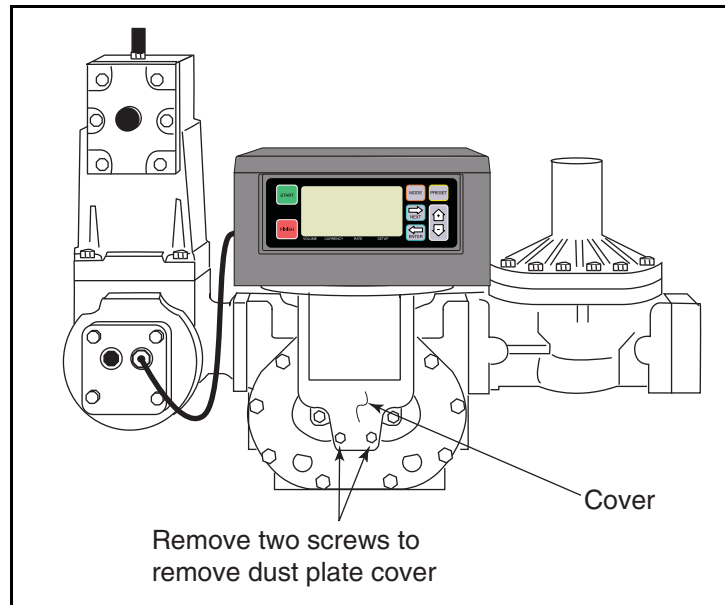
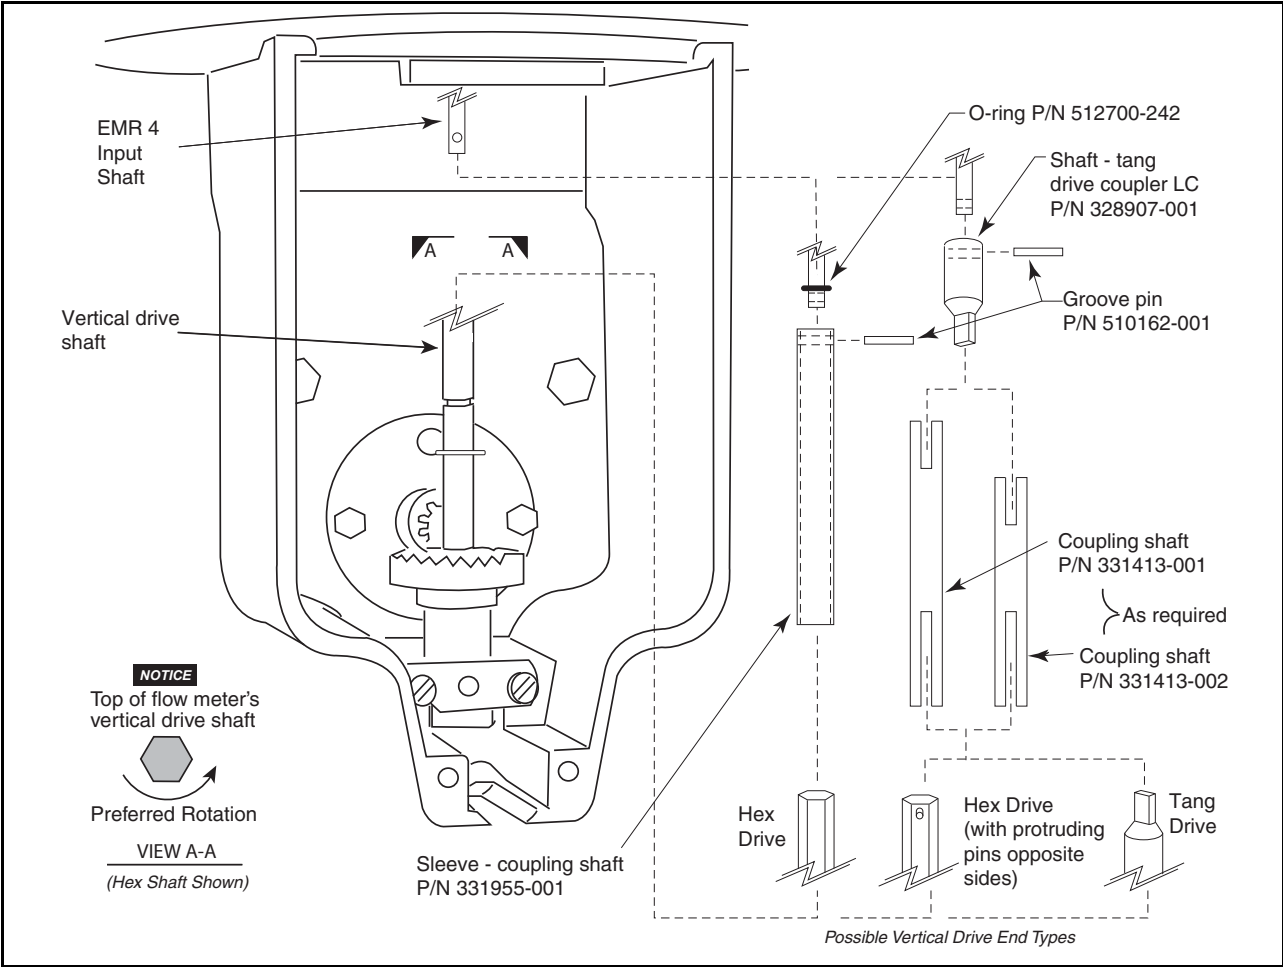

Figure 2. Remove Adjuster Dust Cover Plate
Figure 3. Installing Meter Encoder Adapter Coupling
2. Run the flow meter and verify that the flow meter's vertical drive shaft (Figure 3) is rotating in a counter clockwise direction. If not, make the necessary mechanical adjustment(s) to ensure the vertical drive shaft rotates counter-clockwise.
3. Remove adjuster dust cover plate from front of meter (Figure 2). Remove existing adjuster and coupling shaft. Notice the type of vertical drive shaft in the meter (Figure 3).